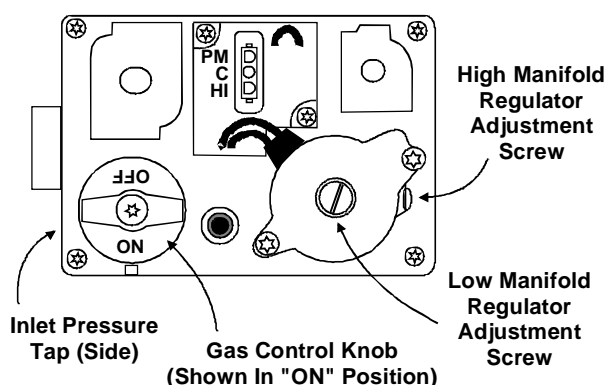

Figure 2
6. Turn the gas control knob clockwise  to the Off position (Figure 2). The knob should turn easily. Do not
8. If gas can be smelled following the five minute waiting period in Step 7, follow the instructions on Page 1 of this manual. If gas can not be smelled, turn the gas control knob counterclockwise  to the On position (Figure 2). The knob should turn easily. Do not use excessive force.
4. Turn the gas control knob clockwise  to the Off position (Figure 2). The knob should turn easily by hand. Do not use excessive force.